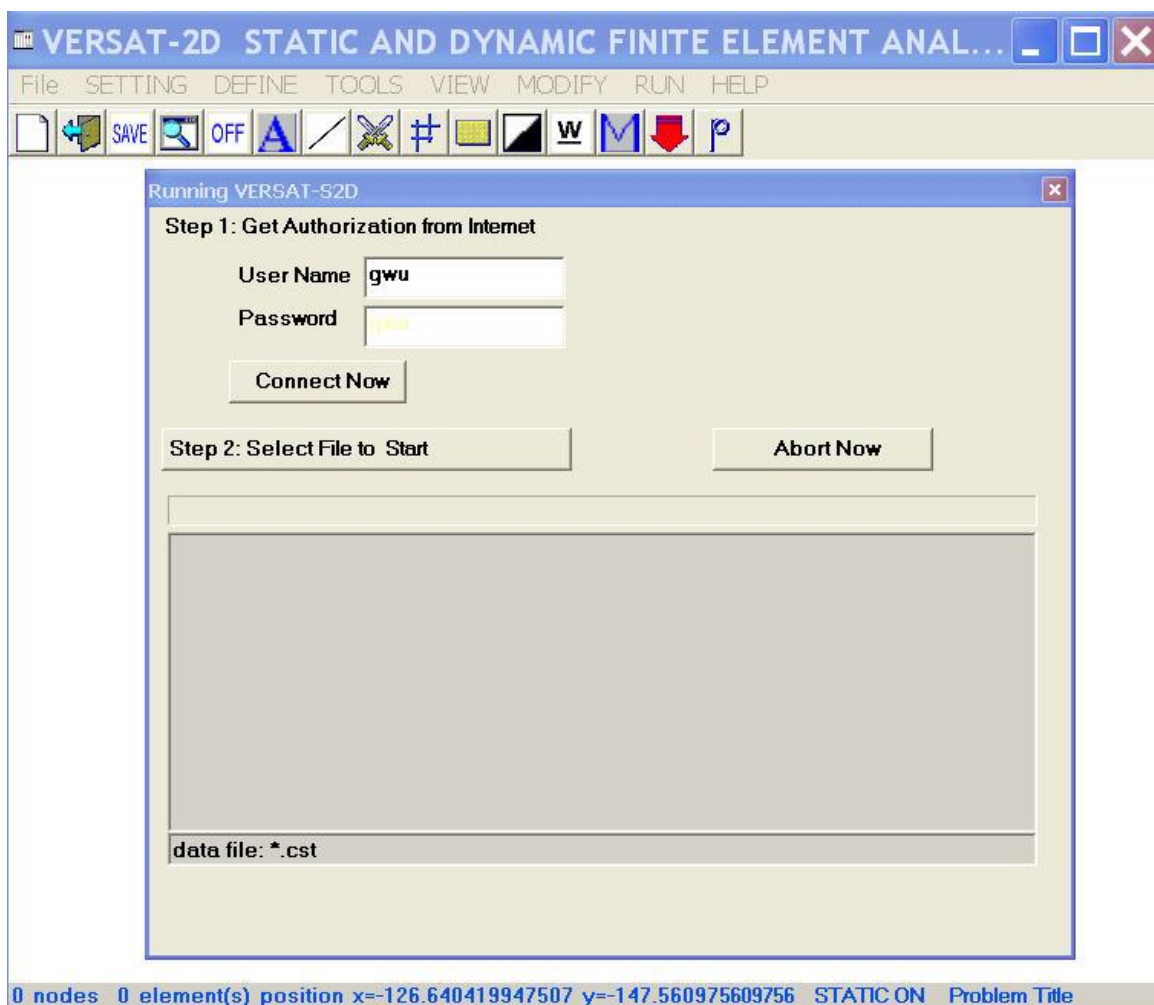

Figure 3.6 A window showing ‘*Run versat-s2d*’ under **RUN**
- Press “*Connect Now*” (see Figure 3.6)